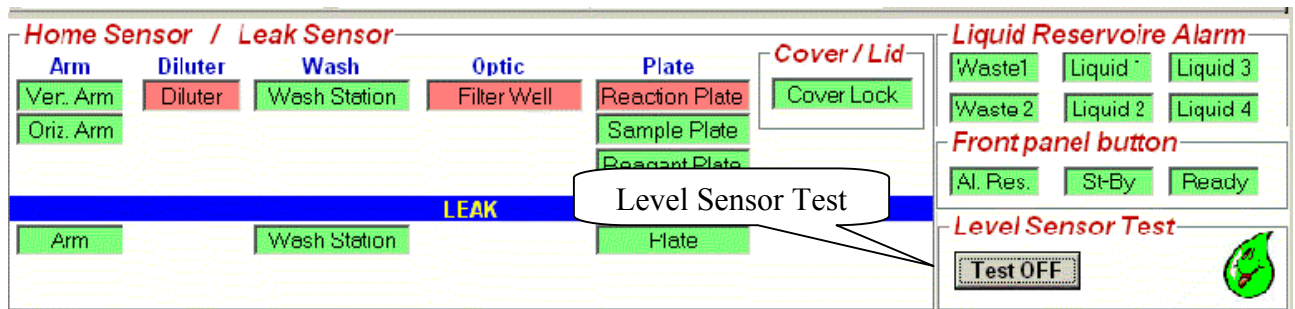

Fig. 43
7. Press "Test ON" on the "Level sensor Test" folder, on the right of it will be showed a red drop that becomes temporarily green when the liquid is detected or when the probe is touched with your finger (Fig. 43).